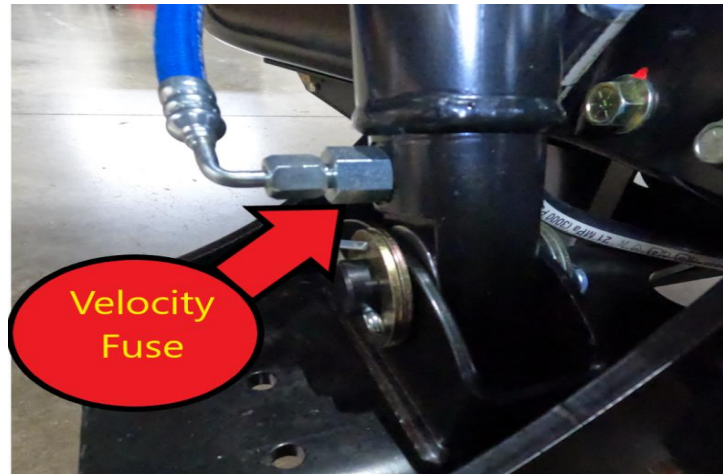

Figure 7.1
12) Install the velocity fuse fitting into the new cylinder. *See Figure 7.1*